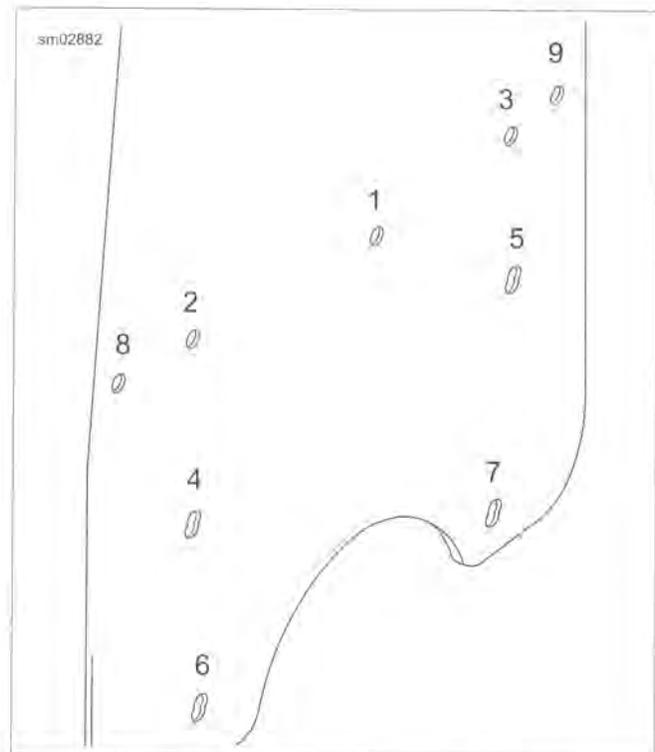

Figure 2-154. Windshield Torque Sequence
11. See Figure 2-154. Following the sequence shown, tighten all screws to 20-25 in-lbs (2.3-2.8 Nm).